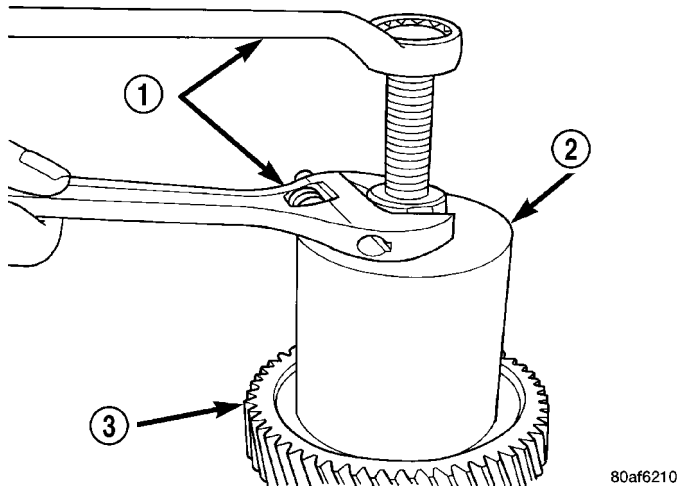

Fig. 62 Remove Transfer Gear Bearing Cone
(41) Remove transfer gear bearing cone using setup shown in (Fig. 62).